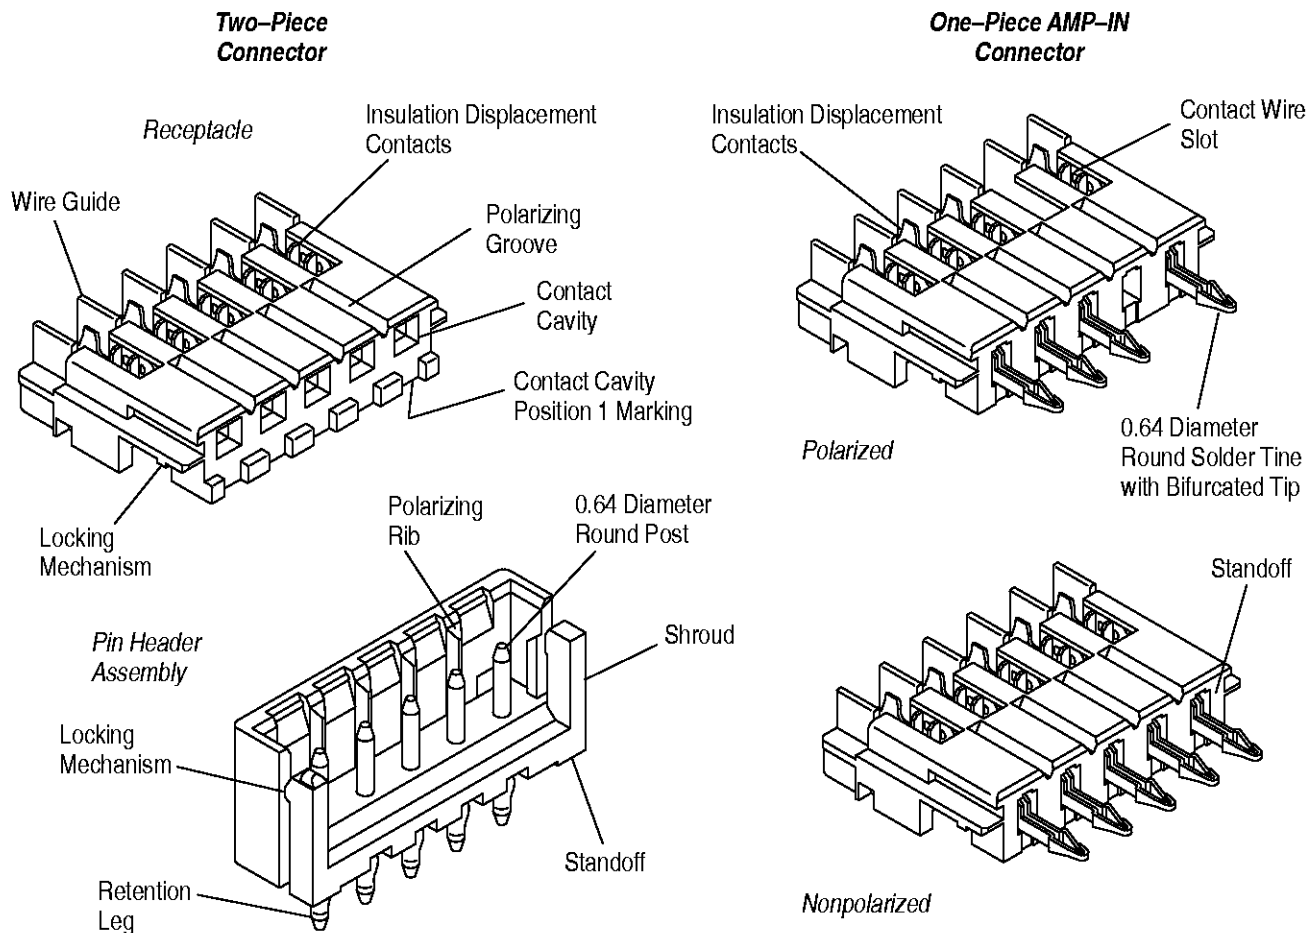

Figure 1
When corresponding with AMP personnel, use the terminology provided in this specification to facilitate your inquiries for information. Basic terms and features of these connectors are provided in Figure 1.
3.3. Special Features (See Figure 1)**A. Polarization**